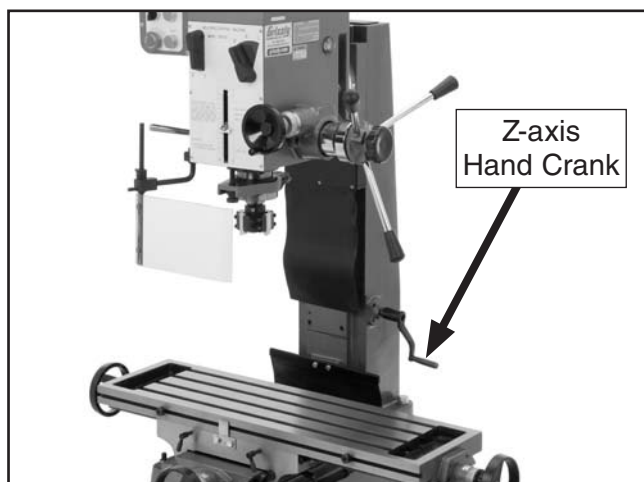

Figure 18. Z-axis control.
2. Turn the Z-axis handcrank shown in **Figure 18** to raise or lower the headstock, then lock the headstock slide lock lever.